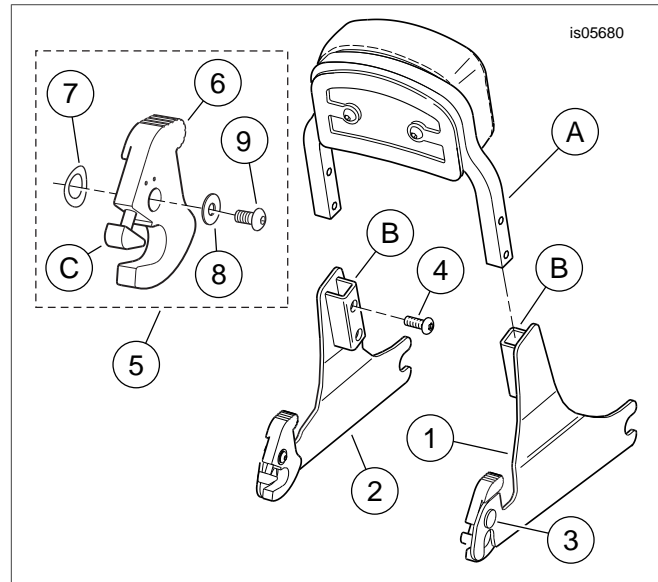

Figure 5. Service Parts, Softail Detachable Sideplate Kit
See Figure 5 and Table 1.
- See Figure 5. Insert the legs of the sissy bar upright (A) all the way into the channels (B) of the sideplates (1 and 2) as shown.
- Apply a few drops of Loctite 262 - Red to the threads of the button head screws (4).